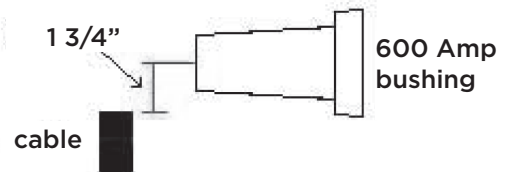

Fig. 3 - Cable Train Dimensions
- A. Cut the excess cable off square and $1\frac{3}{4}$ " below the centerline of the bushing. (See Figure 3.)